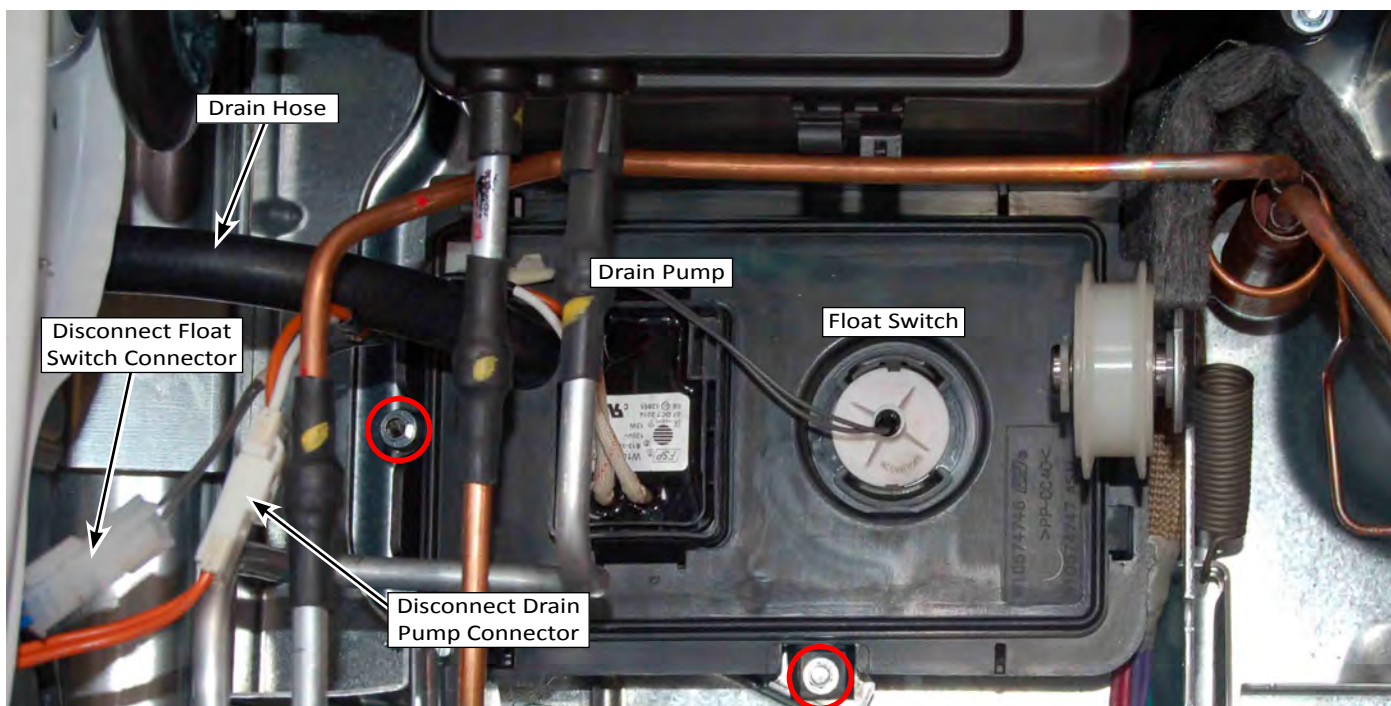

Figure 1
6. Disconnect the Drain Pump harness (see Figure 1 below).
7. Disconnect the Float Switch harness (see Figure 1 below).
9. Remove the two (2) 1/4" hex-head screws securing the cover to the sump assembly (as illustrated in Figure 1). Remove the cover assembly, containing the pump and float from the base of the dryer.